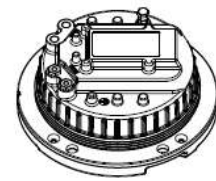

Figure 5-24
- After detection, release the air pressure in the lighting fixture with the air valve of the valve core, re-screw the valve cap and put it into use (Figure 5-24). In case of leakage, check the causes according to the previous prompts and repeat the whole lighting fixture disassembly and assembly process or return it to the factory for maintenance.